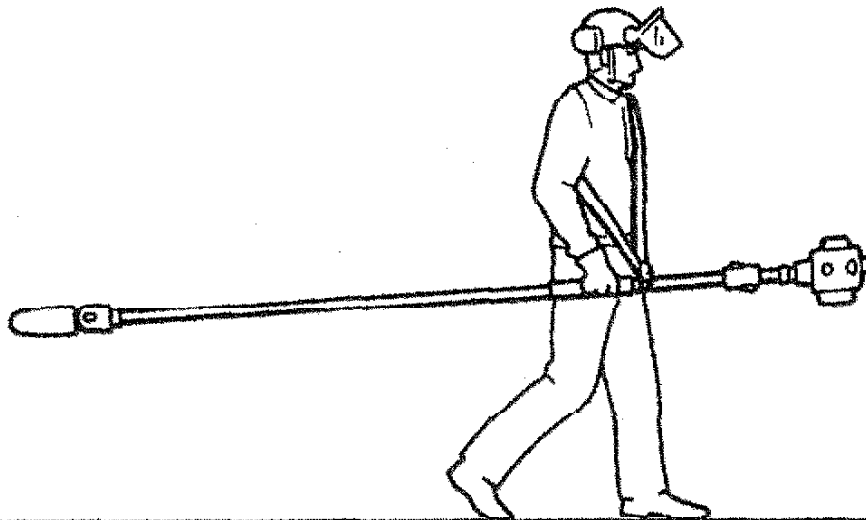

Figure 2
- When carrying the 230PH Multipurpose Engine with the pole pruner tool, the chain should be pointing backward. See Figure 2.